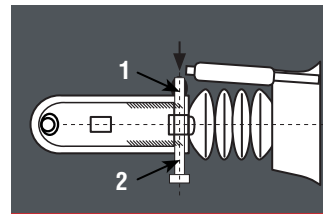

Fig 5
The shock absorber (damper) extends independently. Enclosed with this box is a retaining pin (Fig 5) to aid assembly.
- d Knock through retaining pin (Fig 5/2) with (Fig 5/1) & leave the pin in the shaft for centring the shock absorber (damper)